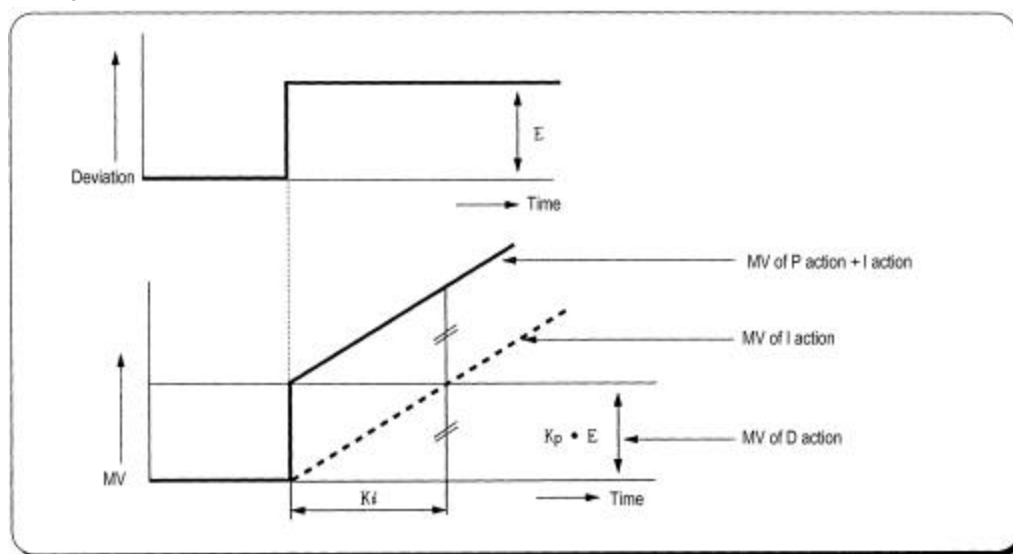

Fig. 2.4 The integral action with constant deviation
- 1) With integral operation, the manipulate value (MV) is increased or decreased continuously in accordance time in order to eliminate the deviation between the SV and PV. When the deviation is very small, the proportional operation can not produce a proper manipulate value and an offset remains between PV and SV. The integral operation can eliminate the offset value even the deviation is very small.
- 3) Integral action when a constant deviation has occurred is shown as the following Fig. 2.4.